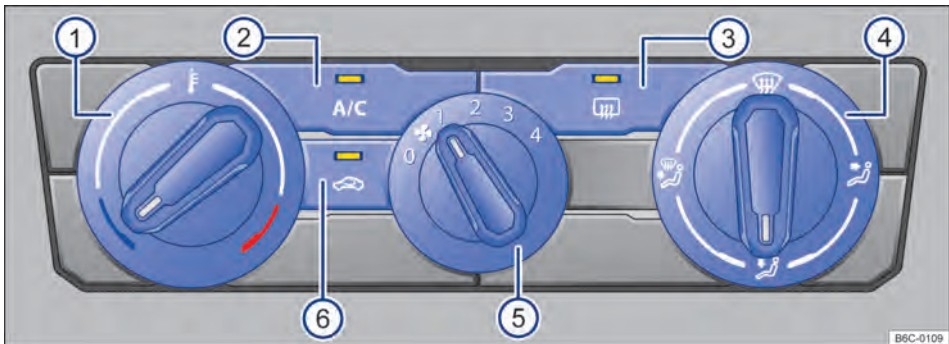

Fig. 81 Air conditioning controls.
- *Air conditioner*: rotate the blower regulator to level 0 → Fig. 81 ⑤.
- *Air Conditioner*: press the button  → Fig. 81 ② to turn the cooling operation on and off.
- *Air-conditioning*: rotate the left rotary regulator → Fig. 81 ①.
- *Air-conditioning*: rotate the blower regulator → Fig. 81 ⑤.
- *Air Conditioner*: press the  button → Fig. 81 ⑥.
- *Air-conditioning*: rotate the right regulator → Fig. 81 ④ to the desired position.
- *Air conditioning*: rotate the right rotary regulator to  → Fig. 81 ④.
- *Air Conditioner*: press the button  → Fig. 81 ③.